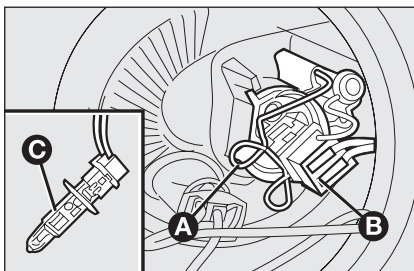

fig. 22
- ☐ release the bulb holder catch **A-fig. 22**;